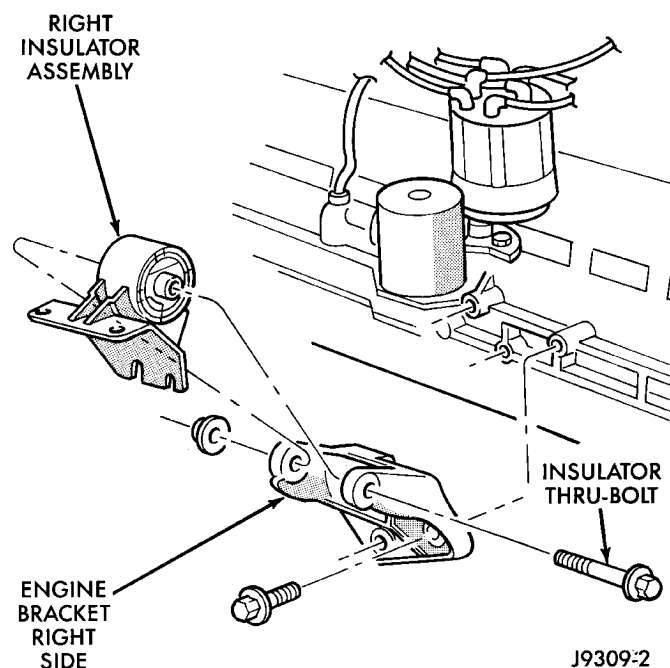
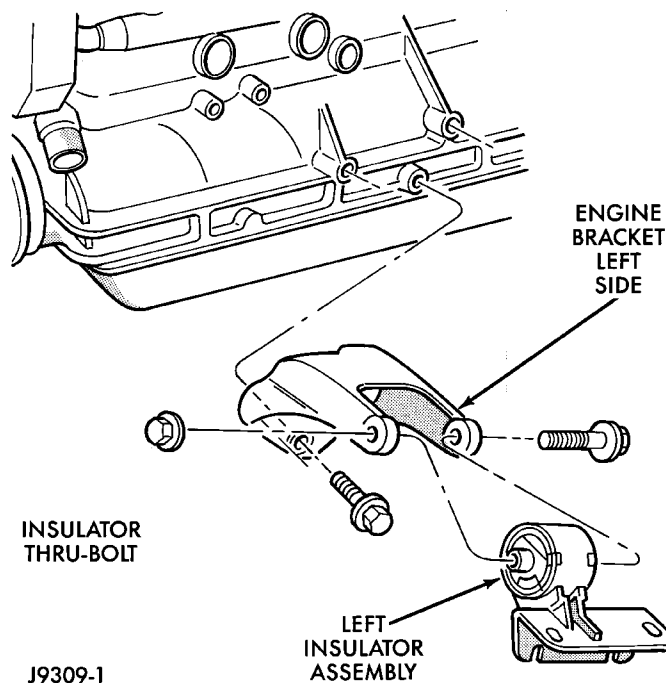

Fig. 25 Front Engine Mount—Right Side
Fig. 26 Front Engine Mount—Left Side
- (1) Disconnect the negative cable from the battery.
- (2) Support the engine.
- (3) Raise the vehicle.
- (4) Remove the insulator assembly-to-lower front sill bolts (Fig. 25) (Fig. 26).
- (5) Raise the engine slightly.
- (6) Remove the thru-bolt nut and thru-bolt (Fig. 25) (Fig. 26). Remove the insulator.
- (7) If required, remove the engine bracket from the block (Fig. 25) (Fig. 26).
- (1) If removed, install the engine bracket to the block (Fig. 25) (Fig. 26). Tighten the bolts to 61 N·m (45 ft. lbs.) torque.
- (2) Install the insulator assembly to the lower front sill. Tighten the bolts to 65 N·m (48 ft. lbs.) torque.
- (3) With the engine insulator assembly and engine bracket in position, install the thru-bolt and nut (Fig. 25) (Fig. 26). Tighten the thru-bolt nut to 121 N·m (89 ft. lbs.) torque.
- (4) Lower the vehicle.
- (5) Remove the engine support.
- (6) Connect the negative cable to the battery.